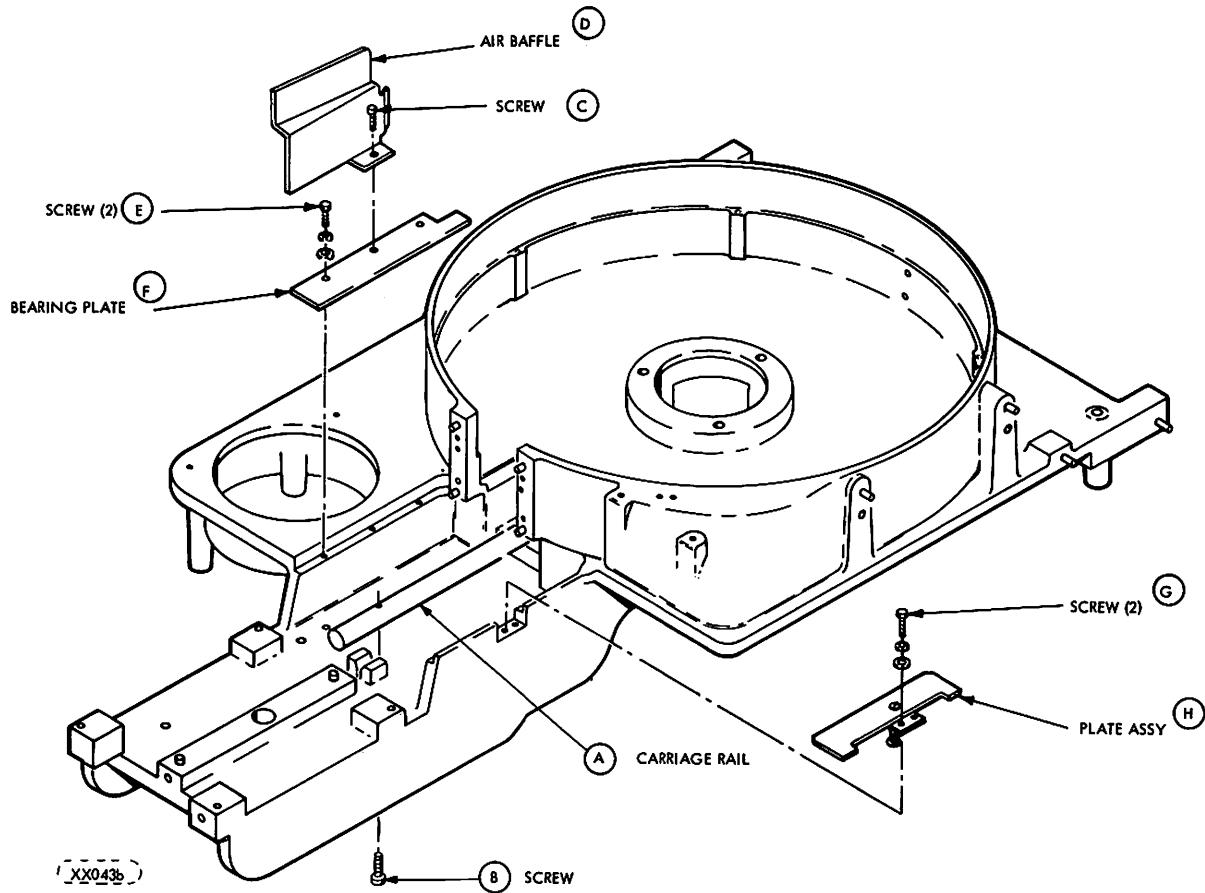

FIGURE 6-20. CARRIAGE RAIL REMOVAL AND REPLACEMENT
To remove the center rail (A) proceed as follows (see Figure 6-20):
- f. Remove screw (B) which secures the carriage rail (A).
- g. Remove the carriage rail (A) from the unit.
To remove and replace the side bearing plate (F) proceed as follows (see Figure 6-20):
- l. Remove screw (C) and remove the air baffle (D).
- m. Remove screws (E) and remove bearing plate (F).
- n. Install new bearing plate and secure with screws (E).
- o. Replace the air baffle (D) and secure with screw (C).
To remove and replace the plate assembly (H) proceed as follows (see Figure 6-20):
- p. Remove the two screws (G) and remove the plate assembly (H).
- q. Install the new plate assembly (H) and secure it with the two screws (G).